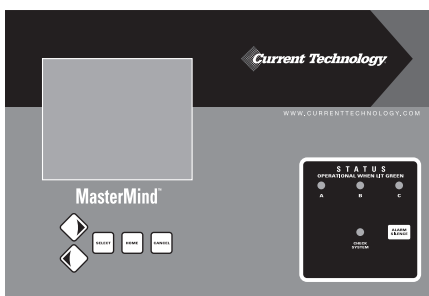

Figure 14
► **If your TG3 is equipped with the Mastermind® Advanced Monitoring Option** (see Figure 14)